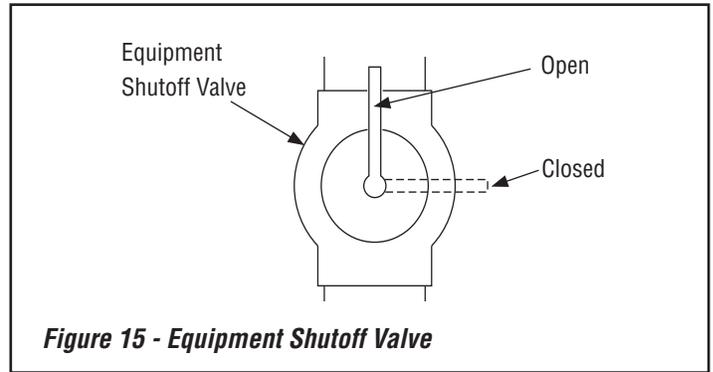

Figure 15 - Equipment Shutoff Valve
1. Close equipment shutoff valve (see *Figure 15*).
1. Open equipment shutoff valve (see *Figure 15, page 13*).